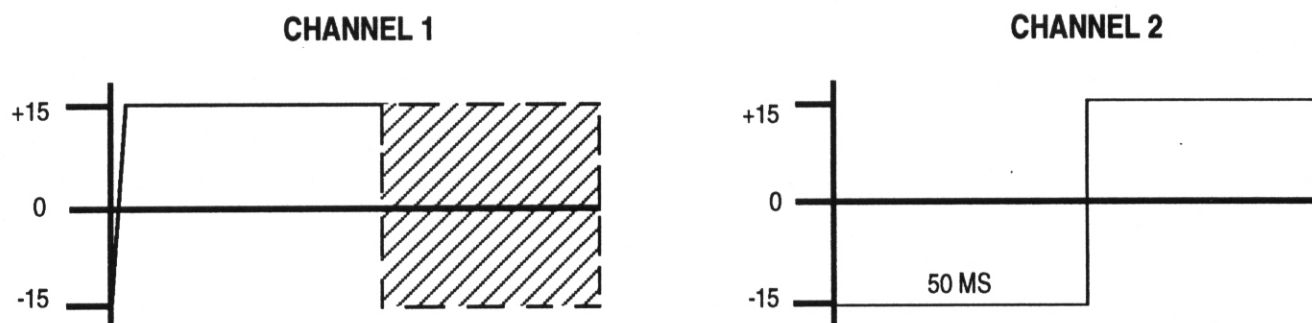
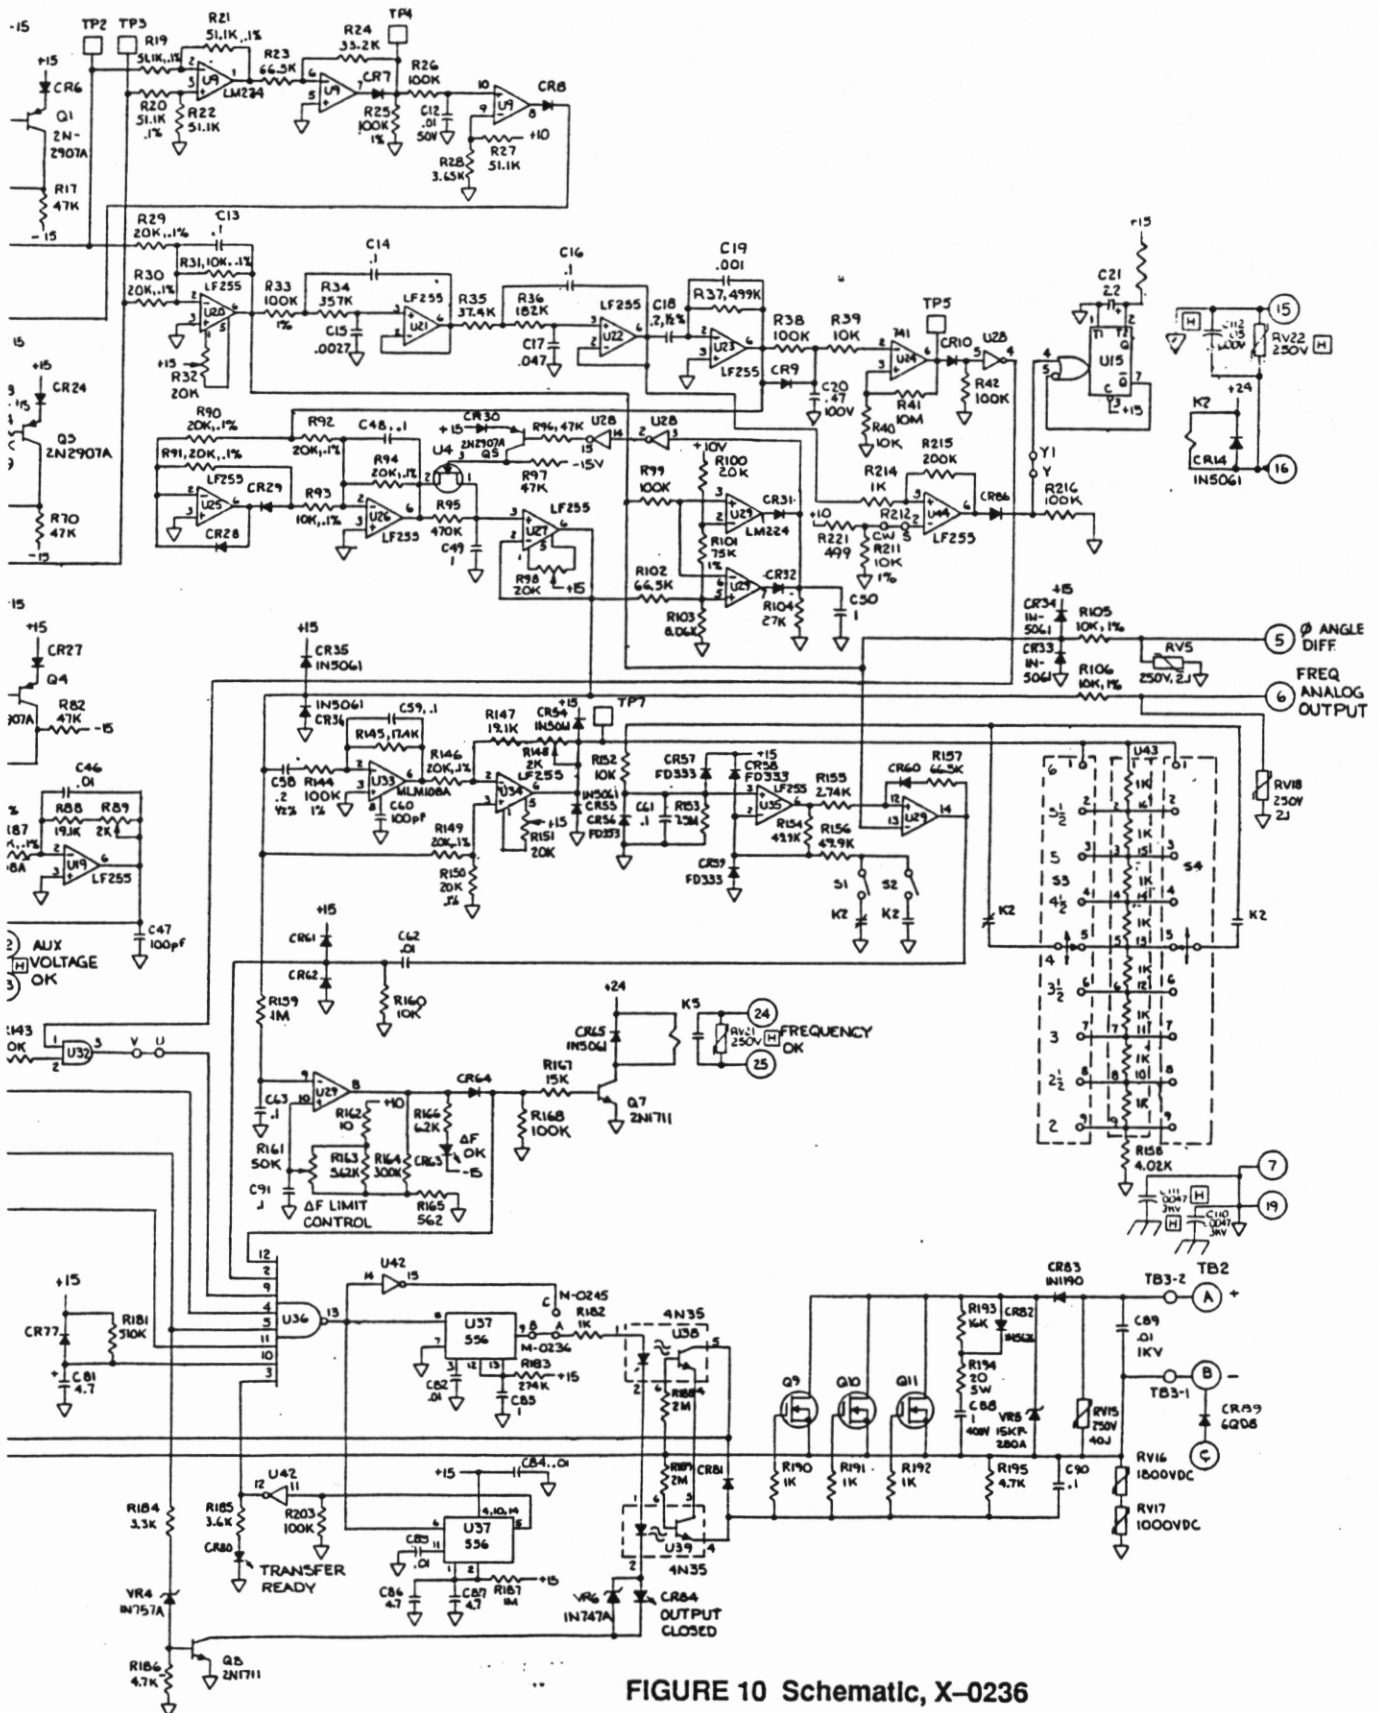

FIGURE 5 Motor Load Bus Voltage Loss
FIGURE 10 Schematic, X-0236
6. The signal on channel 1 should immediately go high from -15 V to +15 V, and channel 2 should go high after approximately 50 ms. See Figure 5.
For Test Point and Component Locations, refer to Figure 5, External Connection; Figure 9, Component Location; and Figure 10, Schematic.